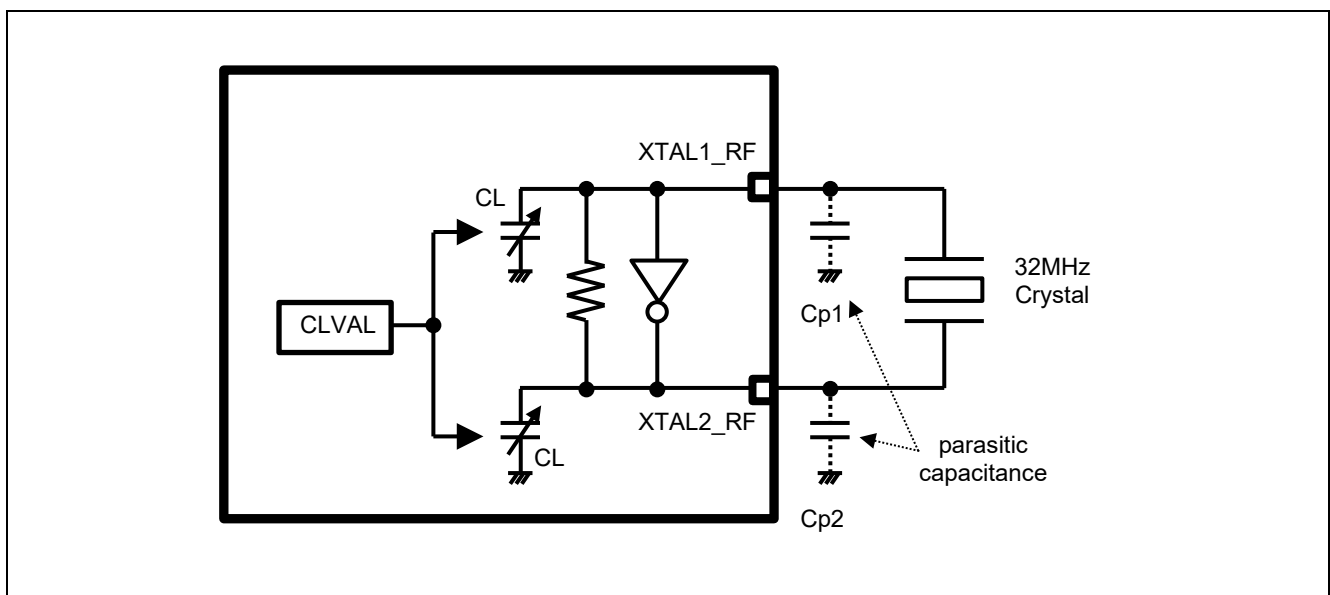

Figure 2-1. Circuit of Bluetooth dedicated clock oscillator.
Figure 2-1 shows circuit of Bluetooth dedicated clock oscillator. RA4W1 has two load capacitors (CL) internally for the tuning Bluetooth dedicated clock frequency. The internal capacitors are connected to terminals XTAL1_RF and XTAL2_RF respectively. The capacitance of CL can be adjusted in a range of 2-15 pF typically. The oscillation frequency error can be minimized with the appropriate capacitor setting (CLVAL).